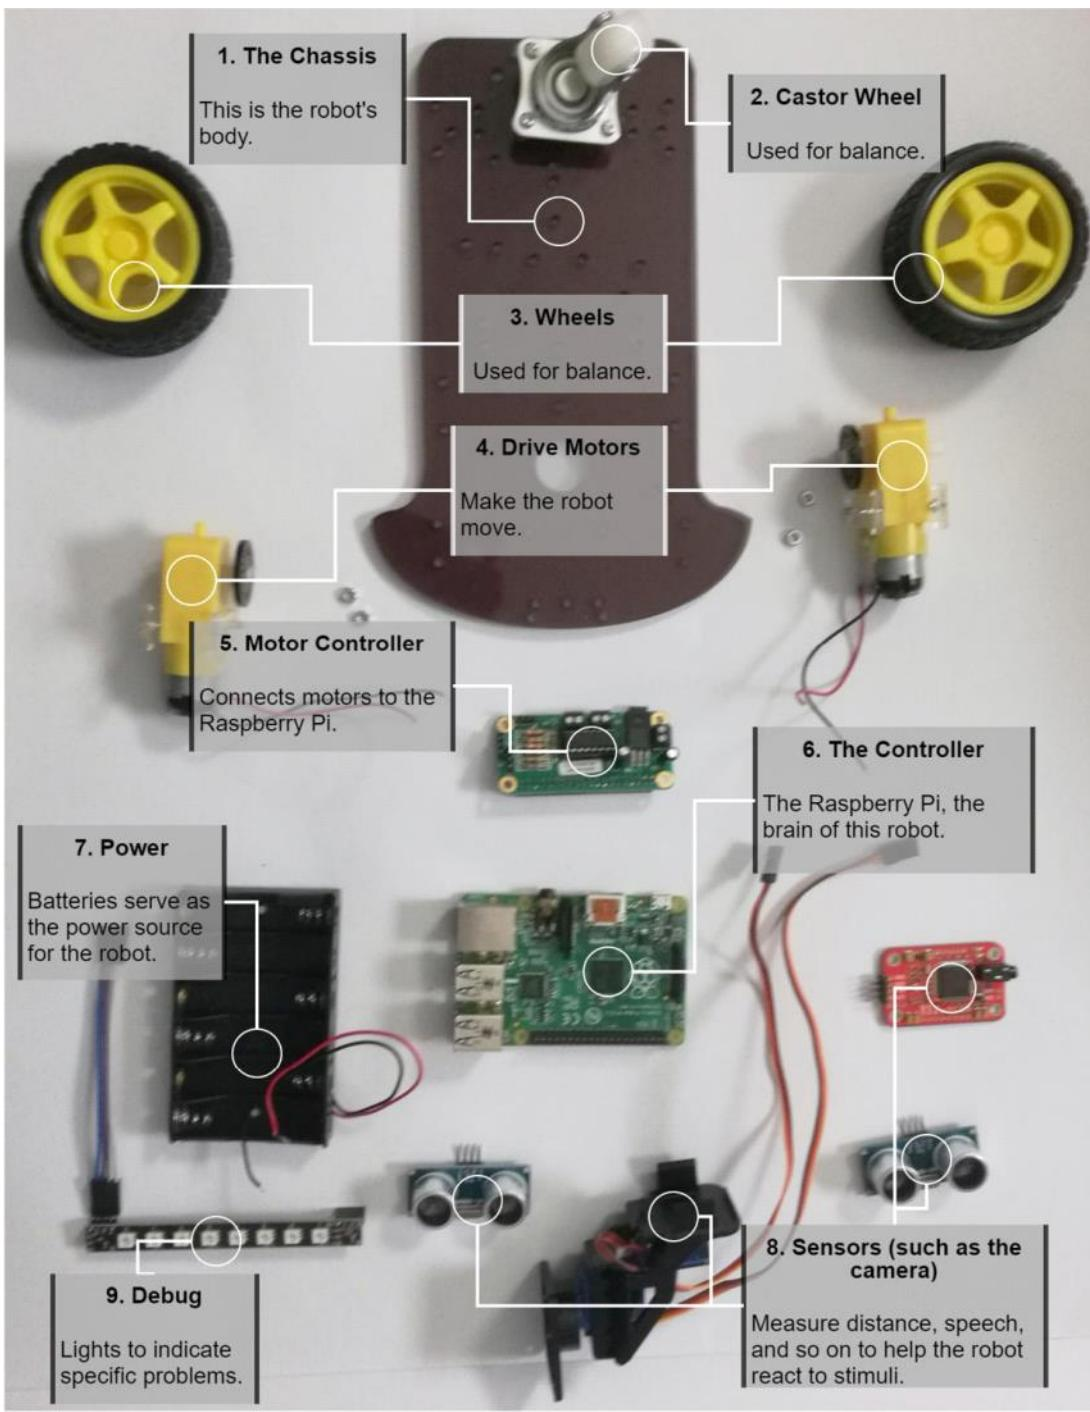

Figure 2.2 – A hobby robot's components laid out
*Figure 2.2* shows it in its disassembled form:
The component groups in Figure 2.2 include nine types of components: